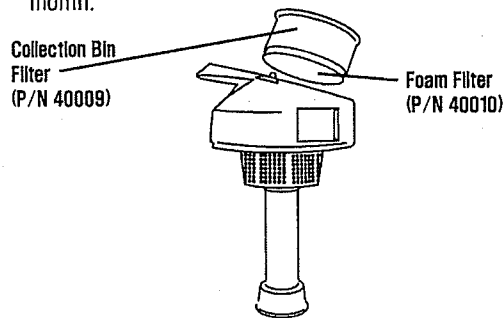

Figure 17
2. Pull out the Collection Bin Filter from its nest in the Collection Bin Cover. (See Figure 17.)